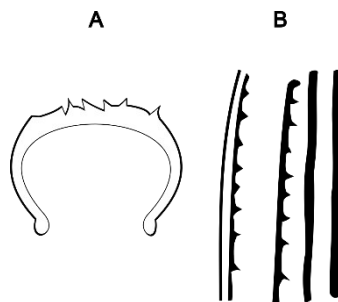

Figure 11 – Tire wear
Incorrect wheel alignment causes quick tire wear. Tire wear peculiarities caused by incorrect toe setting are shown in figure 11: excessive toe-out causes feathering (A) and wear on the inside shoulder of the tire (B).